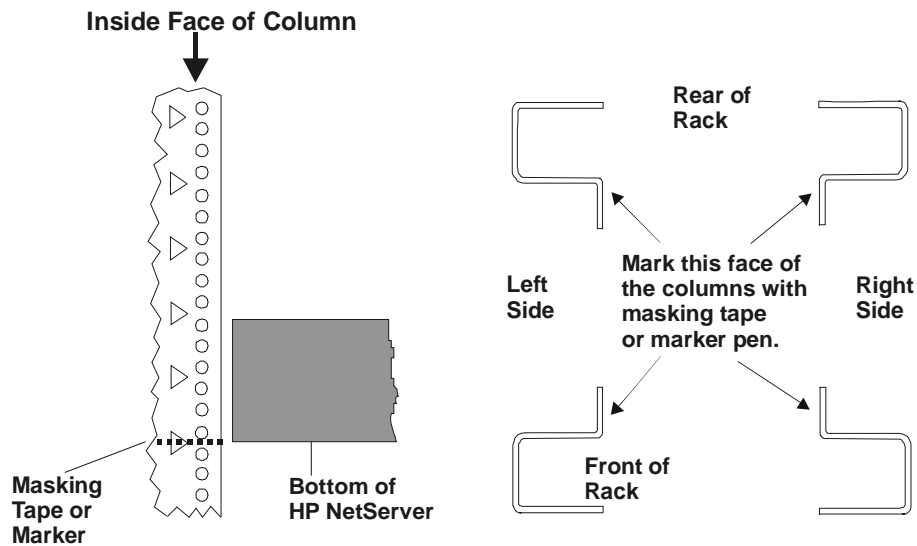

Figure 13-2. Marking Server Placement
1. Use a marking pen or masking tape to mark the server position on the inside of the front and rear columns, as shown in Figure 13-2.